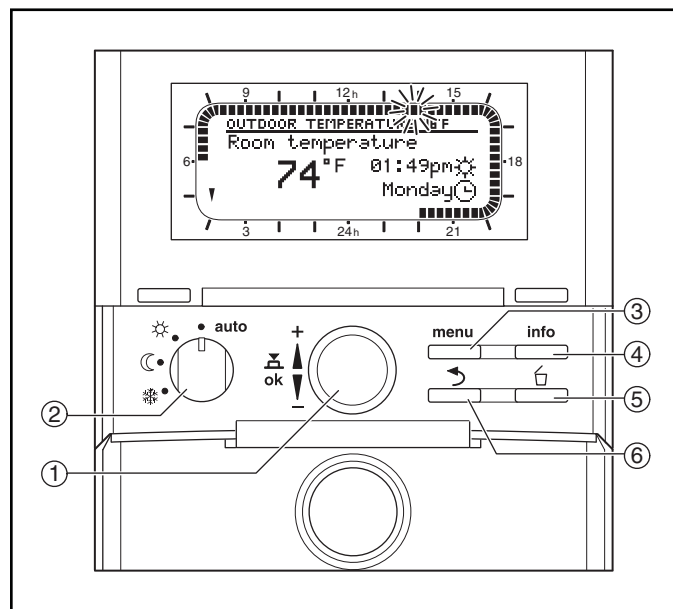

Fig. 1 Controller with front flap open
At any time, pressing the Menu button (Fig.1, pos.3) will bring you back to the standard display.
- Turn dial (Fig.1, pos.1) to adjust time and date. Press the dial to finalize your selection.
- You will be asked about System configuration, which is only necessary if you have added additional controls. If you see this prompt, press and hold the menu button (Fig.1, pos.3) until it disappears.
1. Turn selector (Fig.1, pos.2) to the Comfort Symbol (☀).
To restore to factory defaults, hold the Delete button (Fig.1, pos.5) and the Menu button simultaneously for about 10 seconds. A count down display will appear. This will restore factory defaults. The only program that will be held is the date and time.